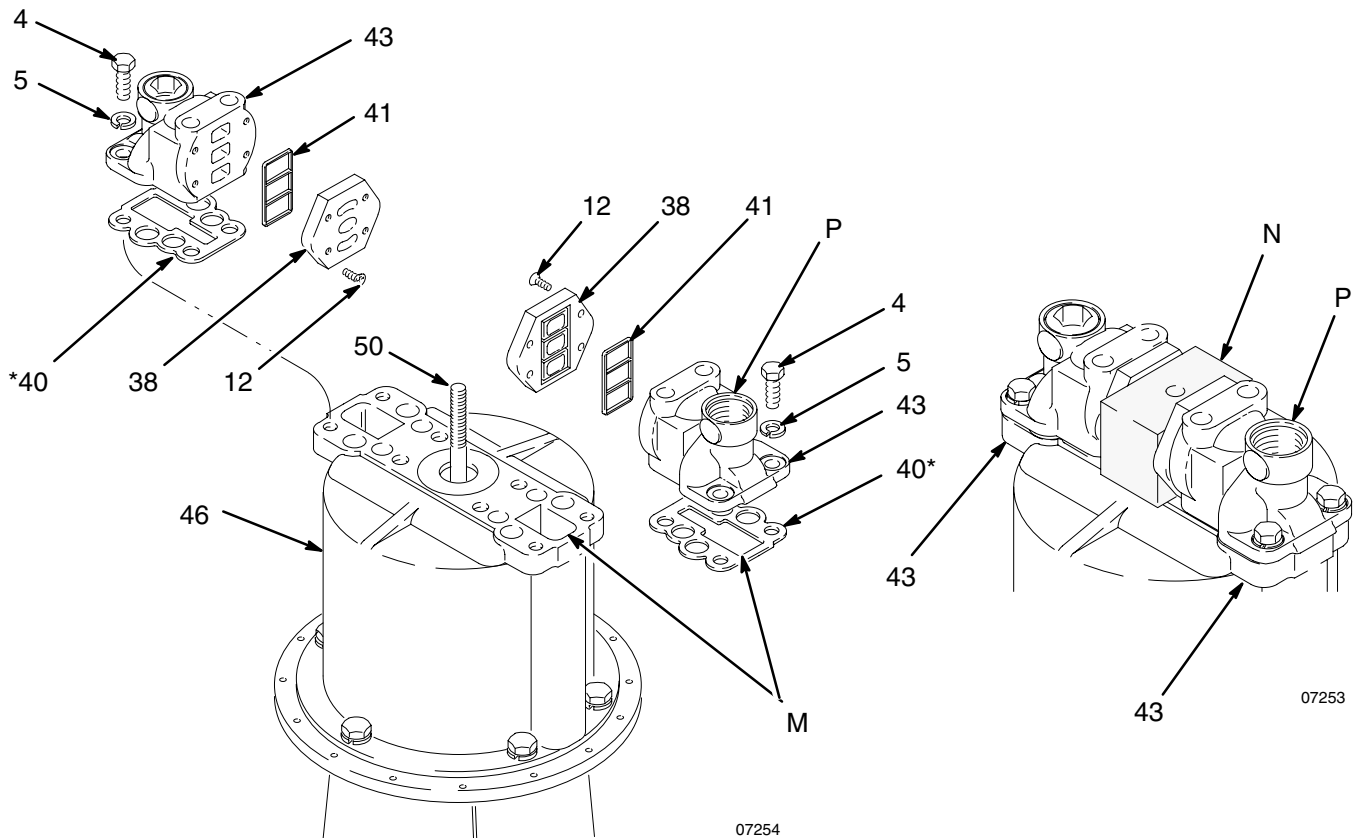

Fig. 9
11. See Fig. 9. Make sure the seals (41) are in place on the valve plates (38). Attach the plates to the manifolds with the screws (12).